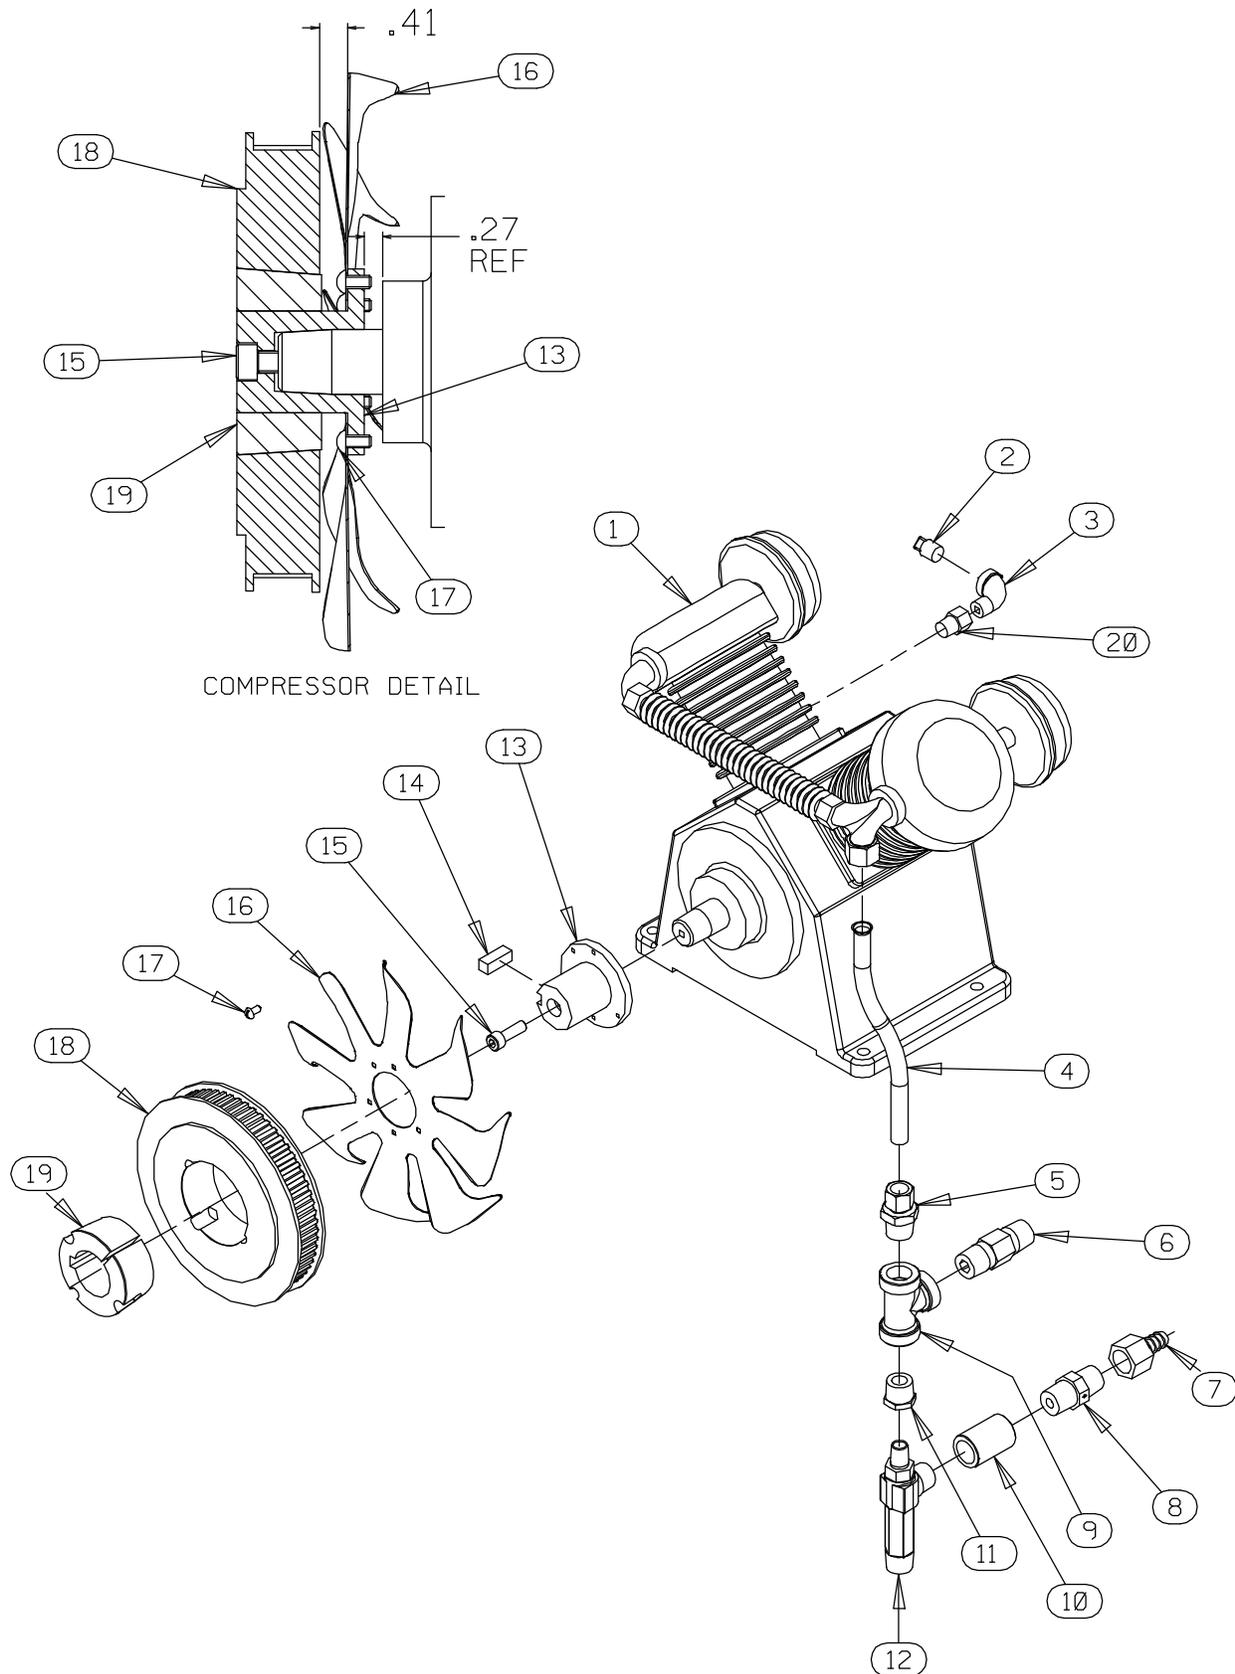

Figure 6. Air Compressor Assembly
Remove the hardware (17 and 51) and use a pry bar to raise the air compressor high enough to remove the spacers (52). Remove the belt (43) from the air compressor drive pulley (18, Figure 6).